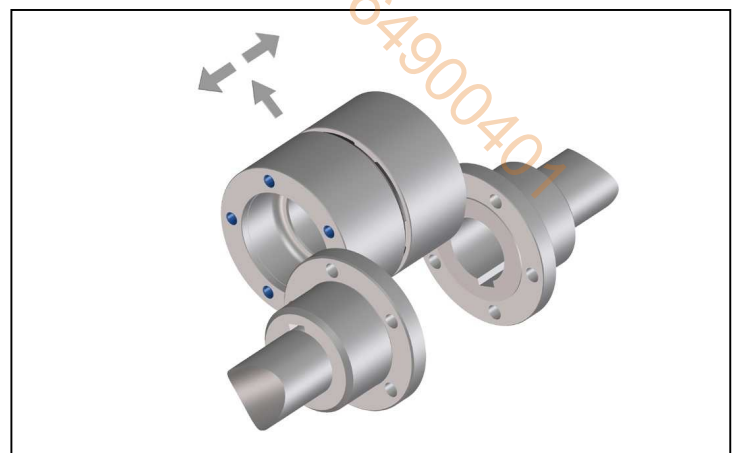

Fig. 13
- Push together the intermediate pieces (Part 112-118) of the centring flange hubs (Part 105) with the elastic intermediate ring (Figure 13).